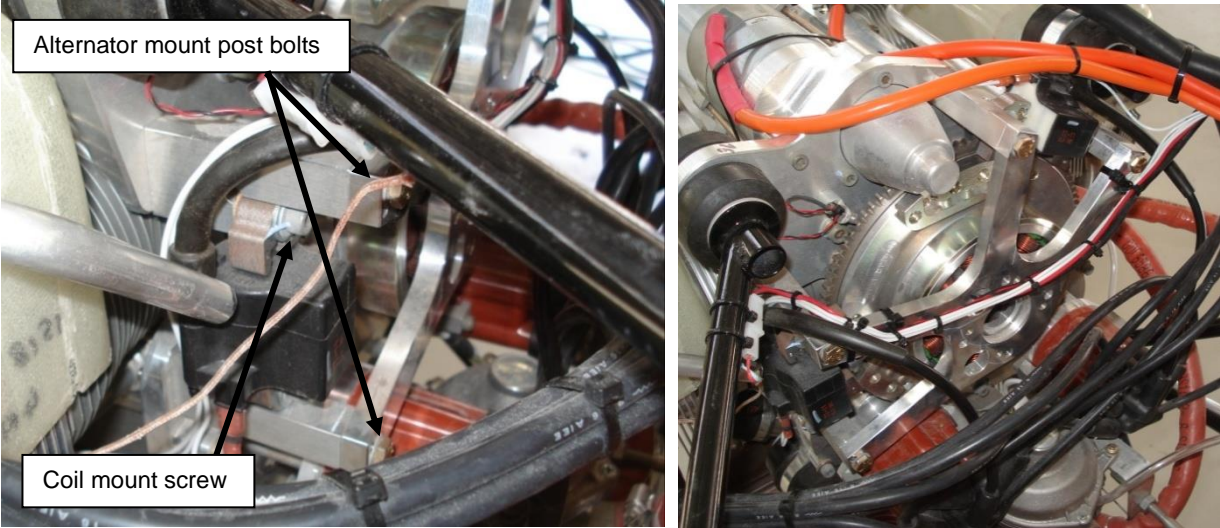

Figure 187 – Ignition Post & Alternator Stator Installation
- The alternator and ignition coil posts are held to the engine using 4 off AN4-37A bolts. Ensure that metal-lock nuts are used as shown in Figure 187. Roll pins are also used to hold these parts in position – tap them together on assembly using a soft hammer.